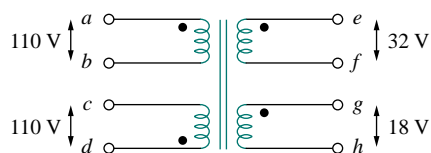

Figure 13.129 For Prob. 13.74.
13.74 A four-winding transformer (Fig. 13.129) is often used in equipment (e.g., PCs, VCRs) that may be operated from either 110 V or 220 V. This makes the equipment suitable for both domestic and foreign use. Show which connections are necessary to provide: